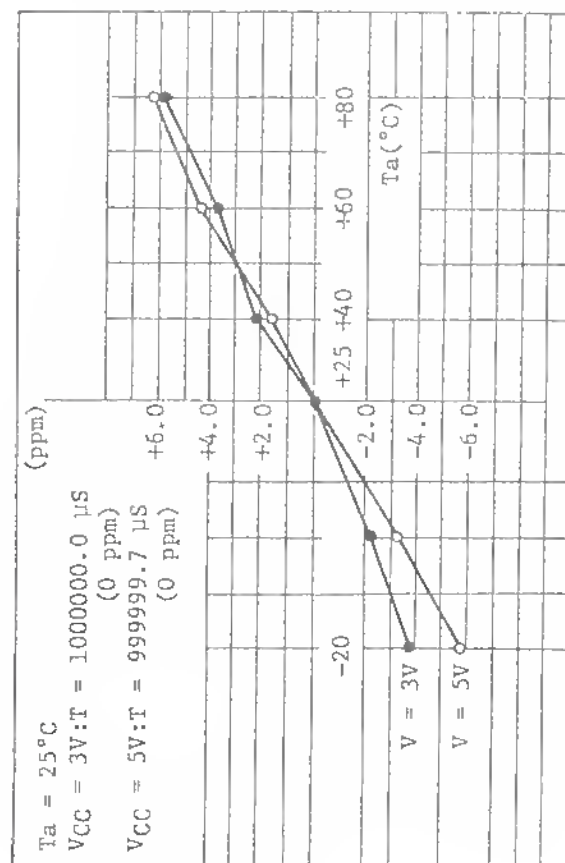

FIGURE 2
32.768kHz OSCILLATOR (pins 16 and 17): An internal inverting amplifier with feedback resistor,  $R_{FB}$ , is connected with a crystal and two capacitors as shown in Figure 6 to form a stable, accurate oscillator -- which serves as the precision time base of the circuit. Capacitors C1 and C2 in series provide the parallel load capacitance required for precise tuning of the quartz crystal. Typical oscillator performance as a function of ambient temperature and supply voltage is shown in Figures 2 and 3 respectively.